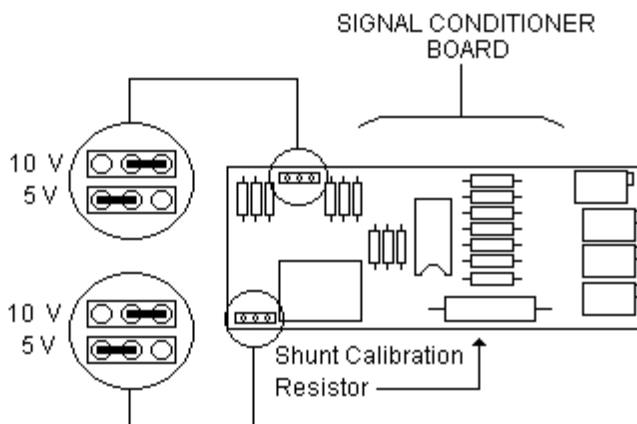

Figure 7-1 -- Amplifier Board Locations
5. Remove the Shunt Calibration Resistor from the Amplifier Board (Figure 7-1) and replace it with one of the proper value.